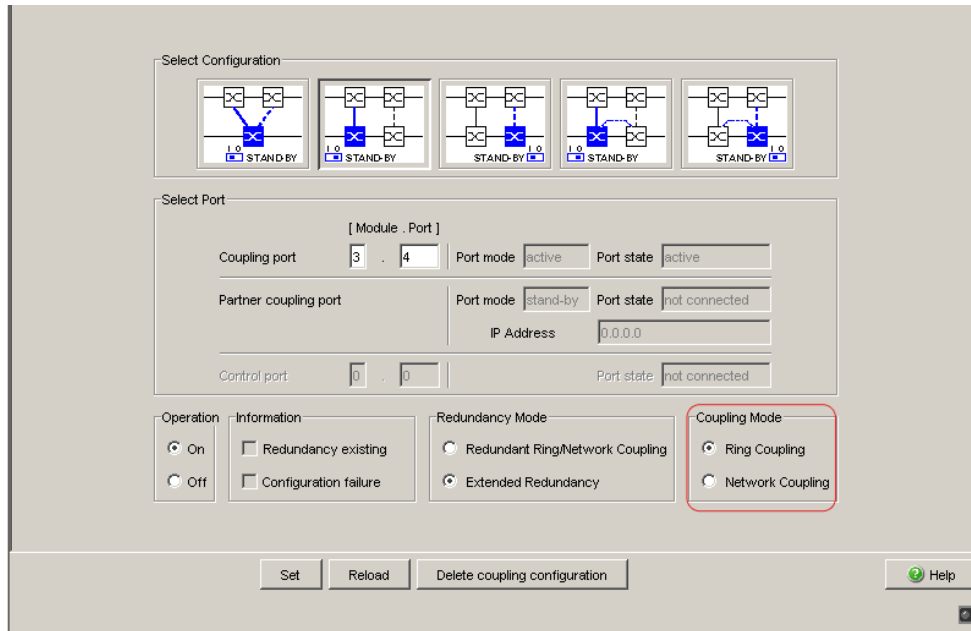

Figure 35: Two-Switch coupling: Selecting the coupling mode
- In the “Coupling Mode” frame, select (see fig. 35)